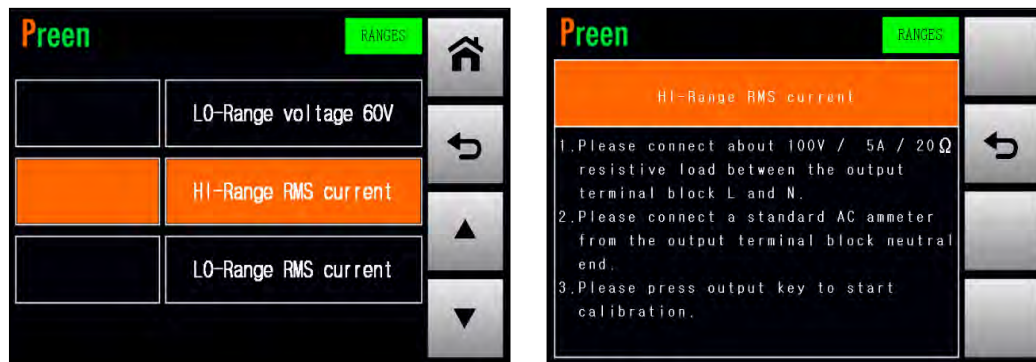

Figure 4.13 Enter into the page which calibrates the HI-Range RMS current
1. Press the item repeatedly to enter into the page which calibrates the HI-Range RMS current (refer to Figure 4.13).